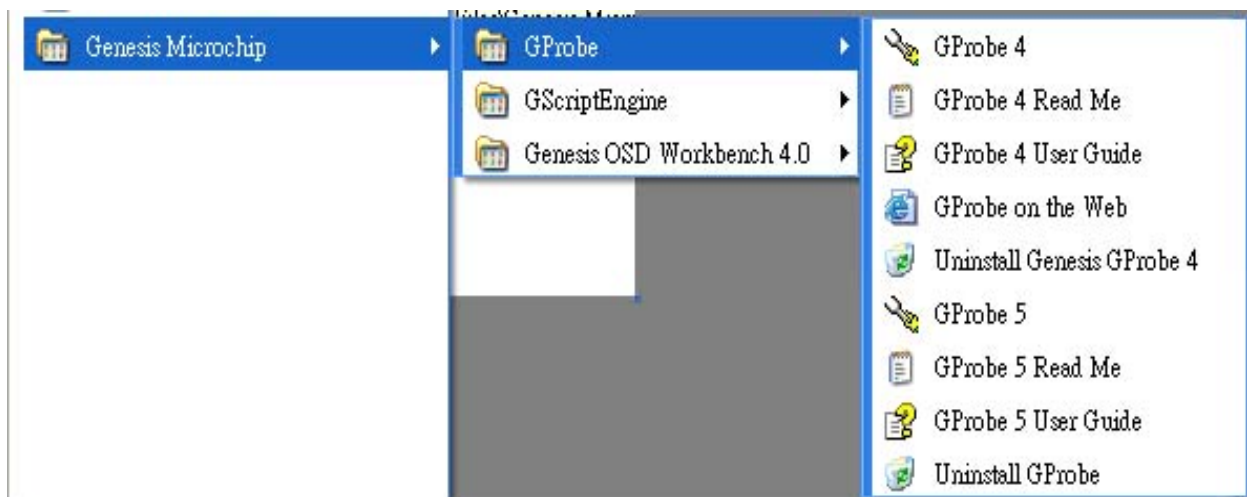

Fig. 1.1
1.1 After installation , we could find the shortcut in the setting path or the program bar (default setting) , see Fig 1.1